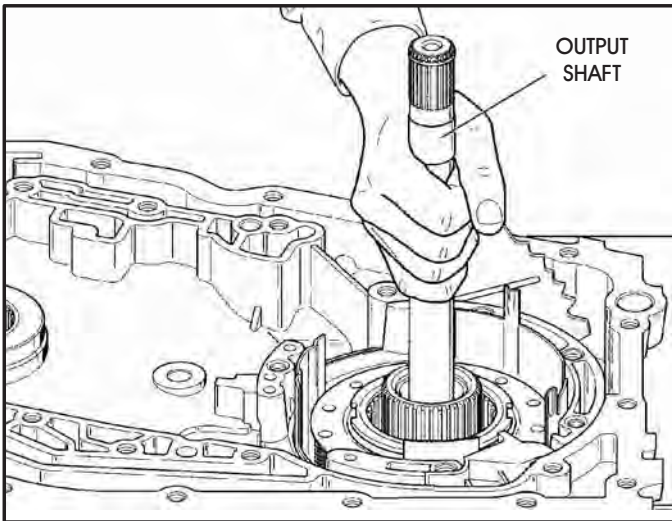

Figure 65
43. Remove the output shaft assembly, as shown in Figure 65.